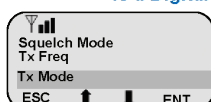

Figure 10
10. Highlight "Tx Mode" and press "ENT", highlight "Analog" and press "ENT". (See Figure 10)